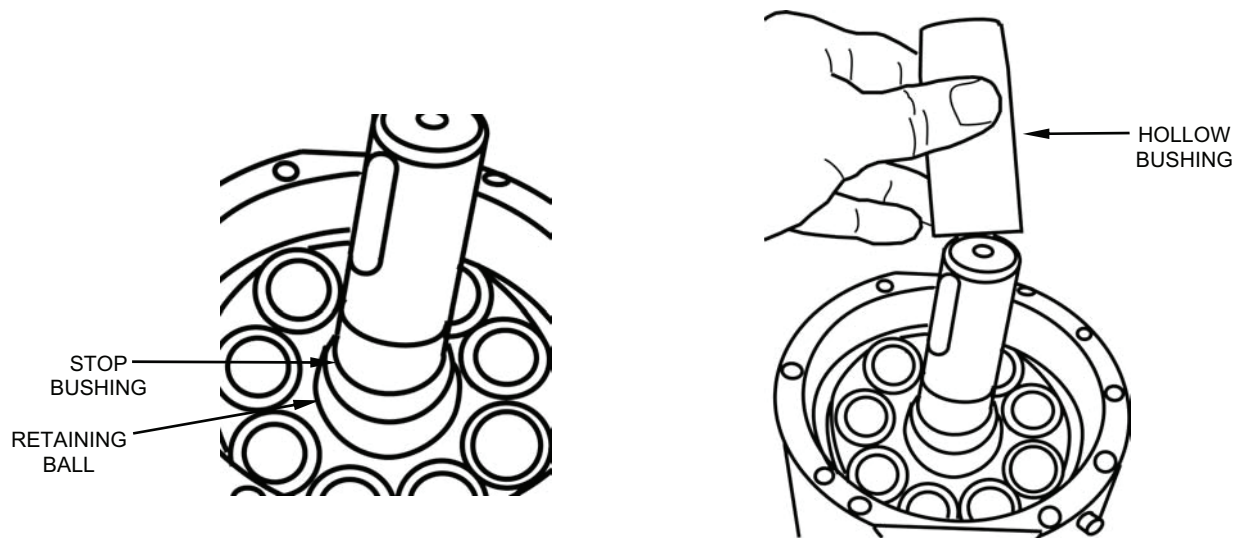

Figure 34. Installing Stop Bushing.
- i. Slide the new stop bushing over the pump shaft and onto the retaining ball (see Figure 34).
- j. Slide the hollow bushing tool onto the pump shaft (see Figure 34)